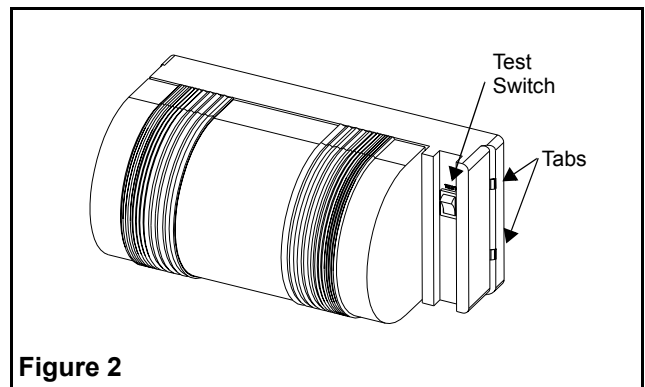

Figure 2
2. Remove the backplate by pressing on the tabs (see fig. 2) with a screwdriver.
4. Determine the desired position of the test switch (see fig. 2) before mounting the backplate.